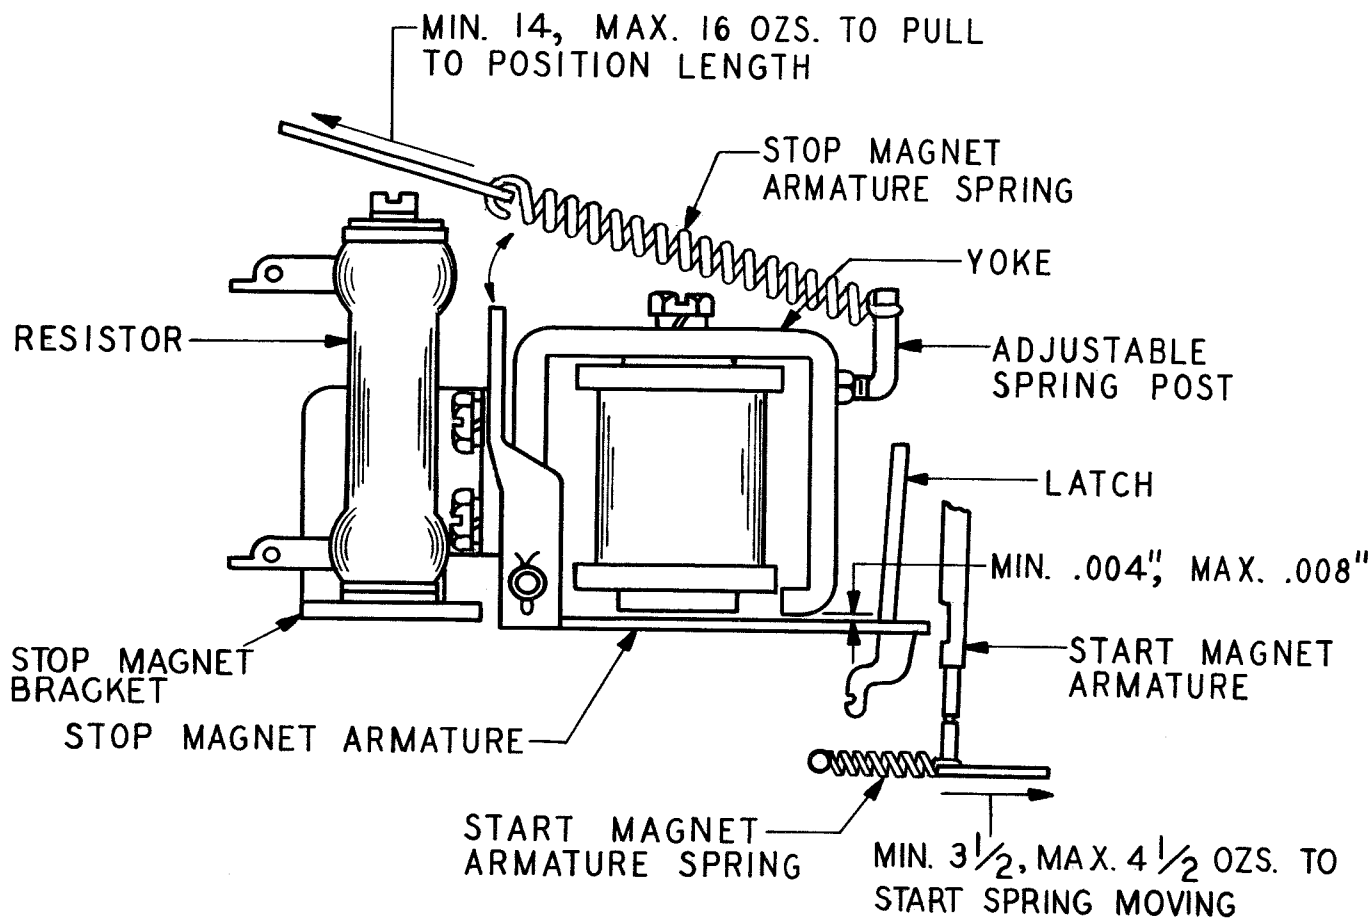

Figure 16
2.33 Stop-magnet Bracket: With the start-magnet armature held in its operated position and with the stop-magnet armature held in its operated position by the latch, there should be minimum 0.004 inch, maximum 0.008 inch between the stop-magnet armature and the outer face of the yoke at the closest point. (See Figure 16.)
2.37 Stop-magnet Armature-spring: With the stop-magnet armature held in its operated position, hook the 32-ounce scale in the stop-magnet armature-spring eye. It should require minimum 14 ounces, maximum 16 ounces to pull the spring to its normal position length. (See Figure 16.)
2.38 Start-magnet Armature-spring: With the stop-magnet armature in its operated position, hook the 8-ounce scale over the end of the start-magnet armature spring-post and pull horizontally in line with the spring. It should require minimum 3-1/2 ounces, maximum 4-1/2 ounces to start the armature moving. (See Figure 16.)